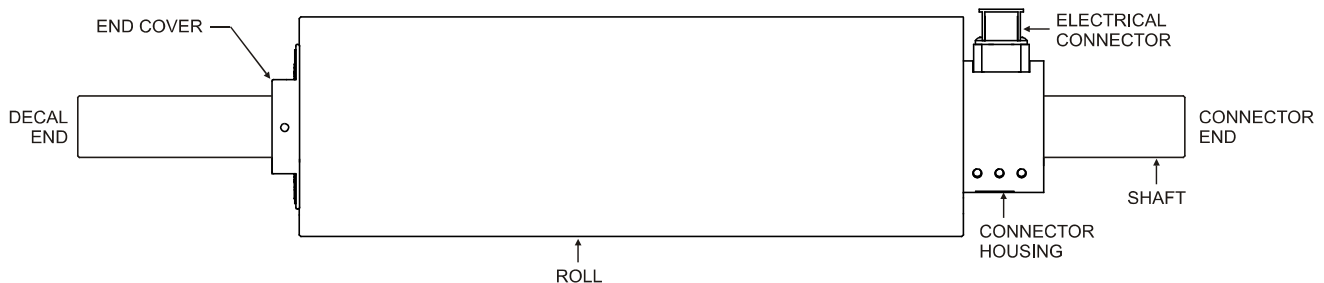

Figure 1 - VIEW OF MODEL TR TRANSDUCER
1.2 CONSTRUCTION AND MECHANICAL OPERATION (see figure 1)